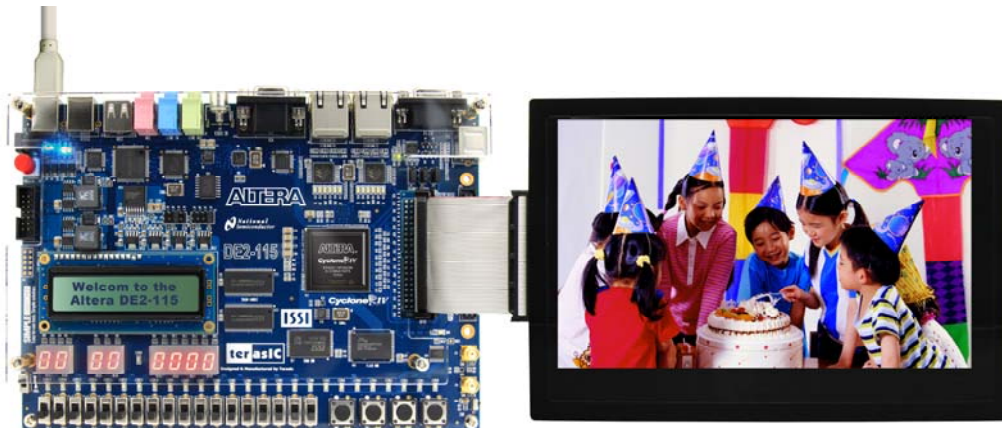

Figure 4-5 Photo Display
8. A photo should be displayed in the LCD, as shown in **Figure 4-5**.